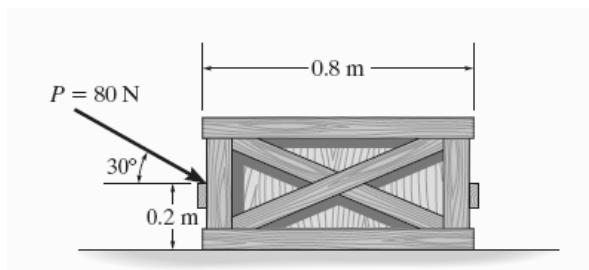

Figure 2-3
3. The uniform crate has a mass of 20 kg. If a force $P = 80 \text{ N}$ is applied on to the crate, determine if it remains in equilibrium as shown in **Figure 2-3**. The coefficient of static friction is $\mu = 0.3$.